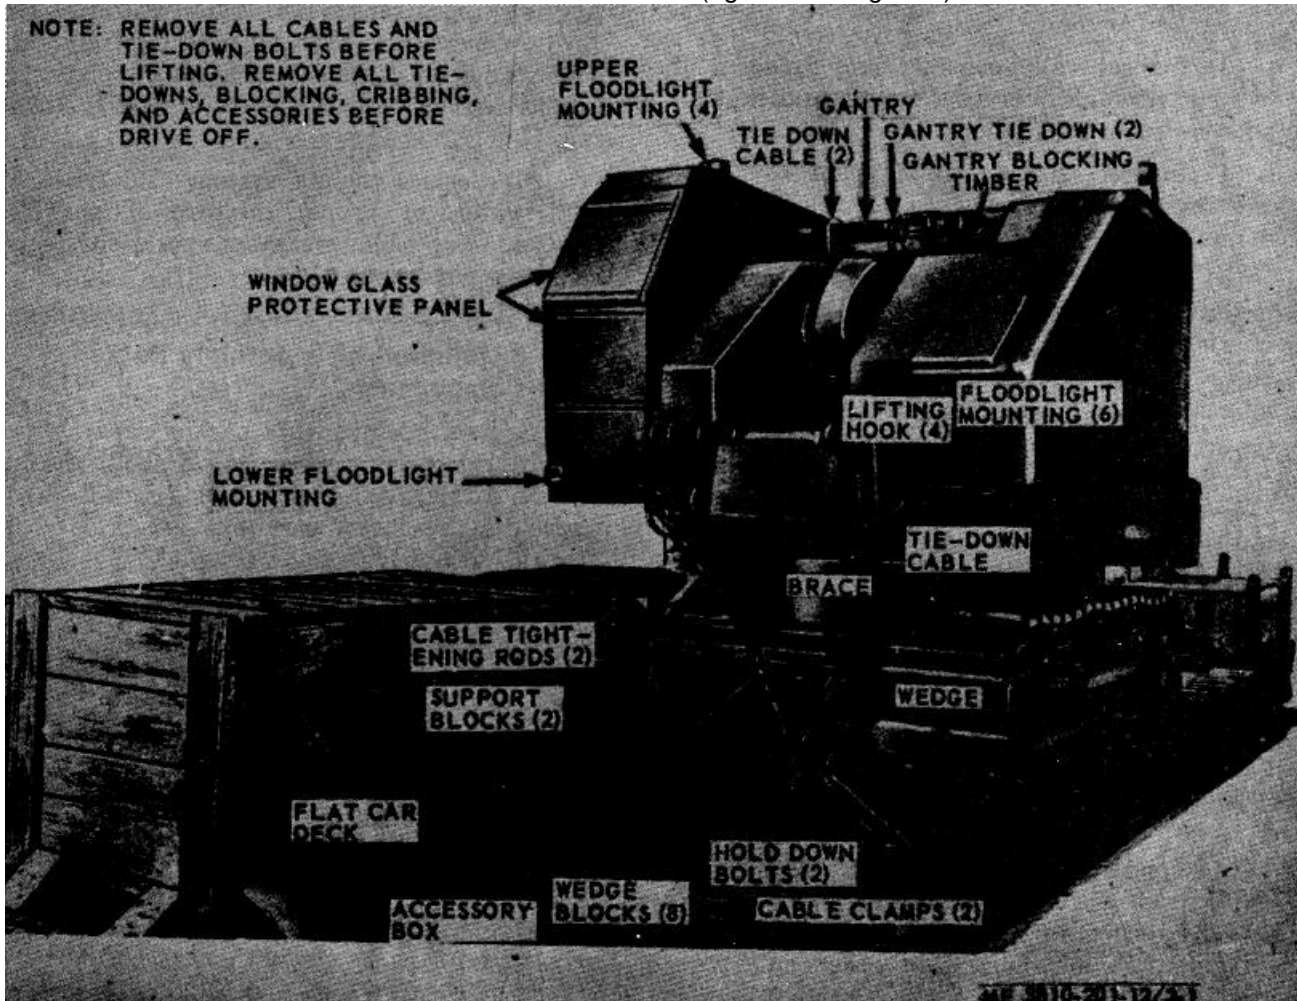

Figure 2-1. Crane-shovel basic unit, and accessories loaded and blocked for shipment, front view.
(1) Preparation for unloading. Remove all blocking, hold-down cables, supports, or cribbing, from front end attachments, accessories, or crane-shovel unit (fig. 2-1 through 2-3).